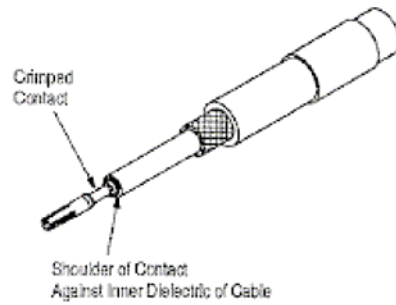

Figure 3
- Insert center conductor into contact until the shoulder of the contact is against the inner dielectric of the cable. Refer to Figure 3.
- Crimp center contact using the recommended crimping tool. Refer to the instruction sheet packaged with the tool for detailed crimping instructions. See Figure 3.